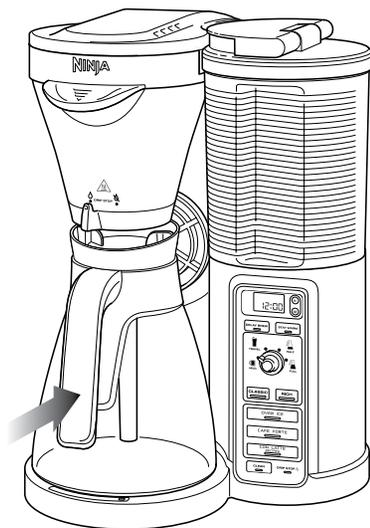

Fig. 8
- 6 Center the carafe below the brew basket. **(Fig. 8)**